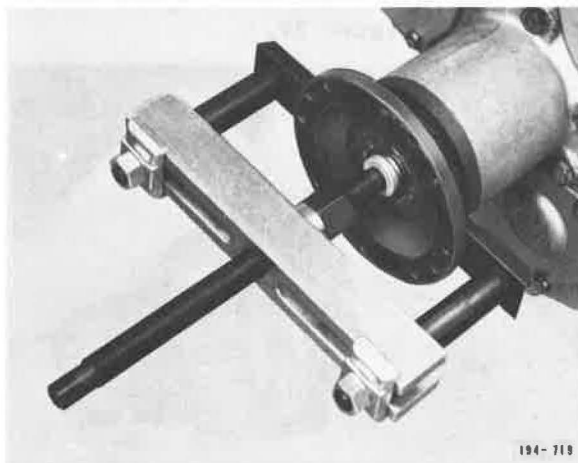

Figure 39. Removing Drive Flange
39. Install puller J-29031 or equivalent and remove drive flange (or yoke) from rear mainshaft splines. See Figure 39.